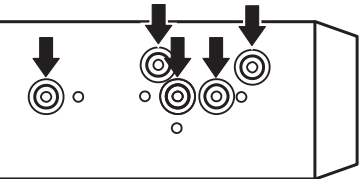

Fig. 5
1. **Determine the appropriate position where the holes on the bracket and the side of the unit match. (Fig. 5)**